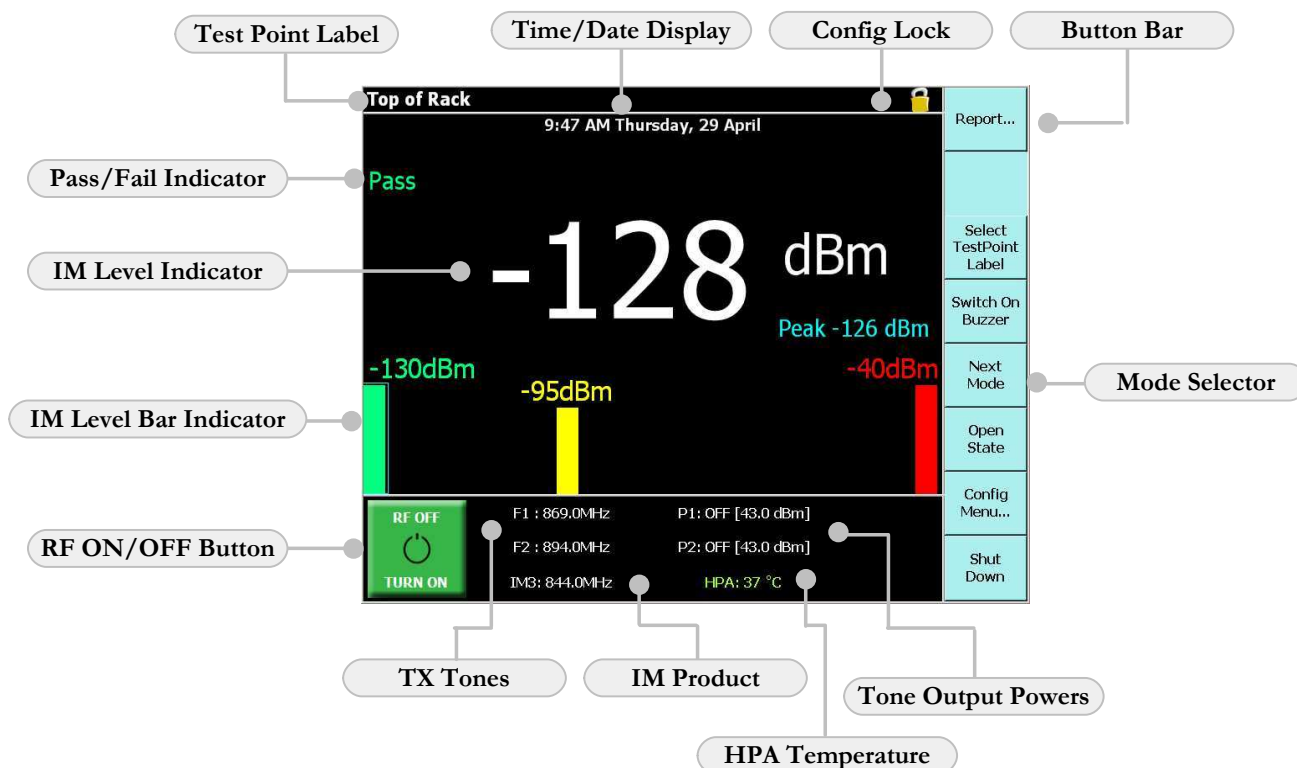

Figure 4: Main Application Window (Default Measurement Mode)
The front panel and external details of the test set are shown below in Figure 3 and Figure 4 respectively. Take note that the labeling of the front panel will vary from one frequency variant to the next.
2. Press the AC power button and the instrument will begin its start-up procedure. The boot and start-up process can take a few seconds. The start-up screen as per Figure 4 will be shown just before the instrument’s fans switch on and the application starts.